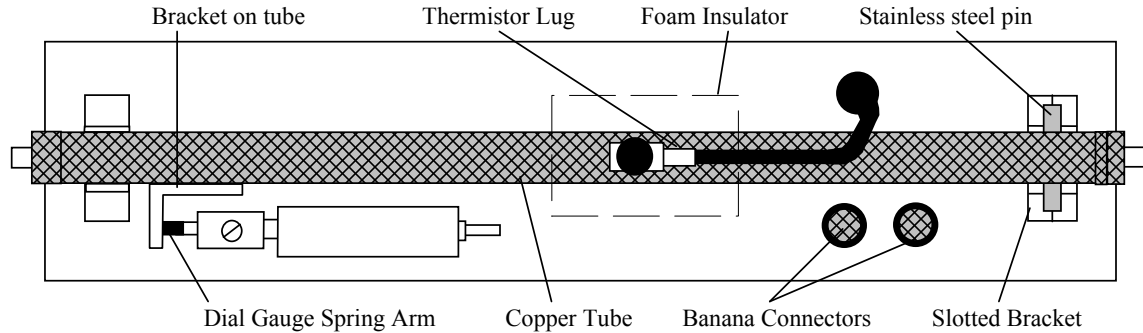

Figure 2 Equipment Setup (Top View)
2. Mount the copper tube in the expansion base as shown in Figure 2. The stainless steel pin on the tube fits into the slot on the slotted mounting block and the tube presses against the spring arm of the dial gauge.
- Use one of the provided thumbscrews to attach the thermistor lug to the threaded hole in the middle of the copper tube. The lug should be aligned with the axis of the tube, as shown in Figure 2, so there is maximum contact between the lug and the tube.
- Place the foam insulator over the thermistor lug as shown in Figure 2.